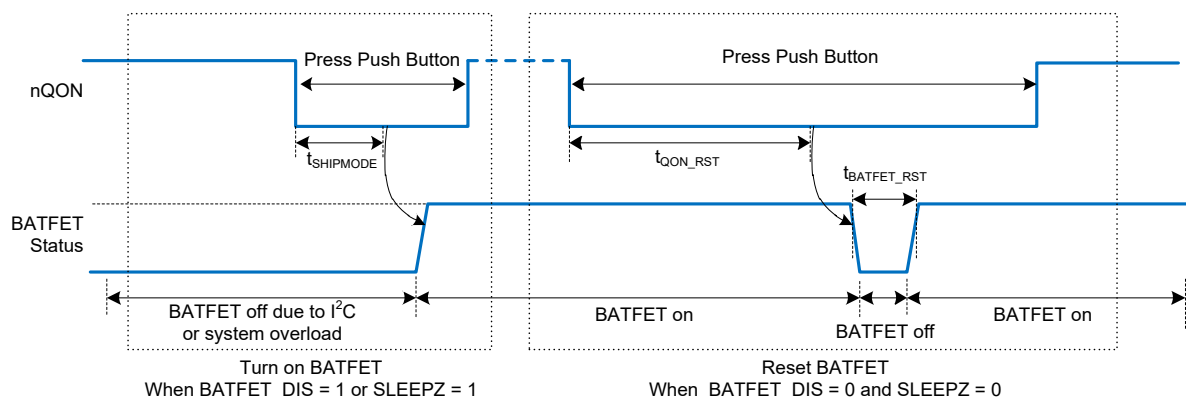

Figure 10. nQON Enable and Reset BATFET Timing
1. Enable BATFET: Applying an nQON logic high to low transition with longer than $t_{SHIPMODE}$ deglitch time (negative pulse) turns on BATFET to exit ship mode (Figure 10 left). When exiting shipping mode, HIZ is enabled (EN_HIZ = 1) as well. HIZ can be disabled (EN_HIZ = 0) by the host after exiting shipping mode. OTG cannot be enabled (OTG_CONFIG = 1) until HIZ is disabled.
2. Reset BATFET: By applying a logic low for a duration of at least t_{QON_RST} to nQON pin while VBUS is not powered and BATFET is allowed to turn on (BATFET_DIS bit = 0), the BATFET turns off for t_{BATFET_RST} and then it is re-enabled resulting in a system power-on reset (Figure 10 right). This function can be disabled by clearing BATFET_RST_EN bit.